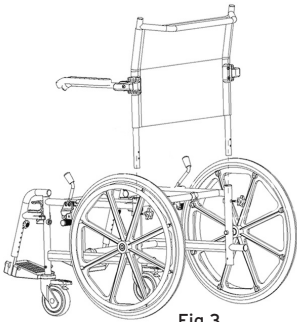

Fig.3
- Insert the backrest inside the holes on the wheelchair frame and fix the backrest using the two fixing knobs (Fig.3);